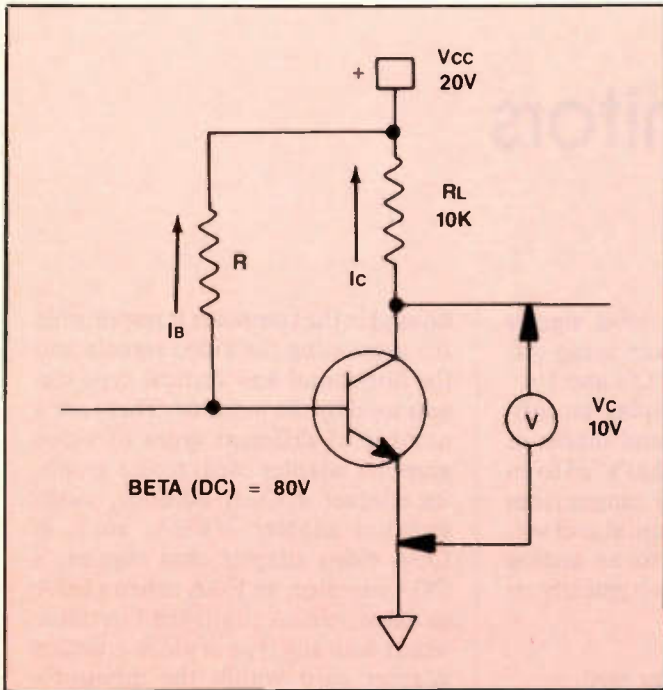

Figure 3.
4. Find the actual value of R (using a standard value) in the basic Class A amplifier of Figure 3.